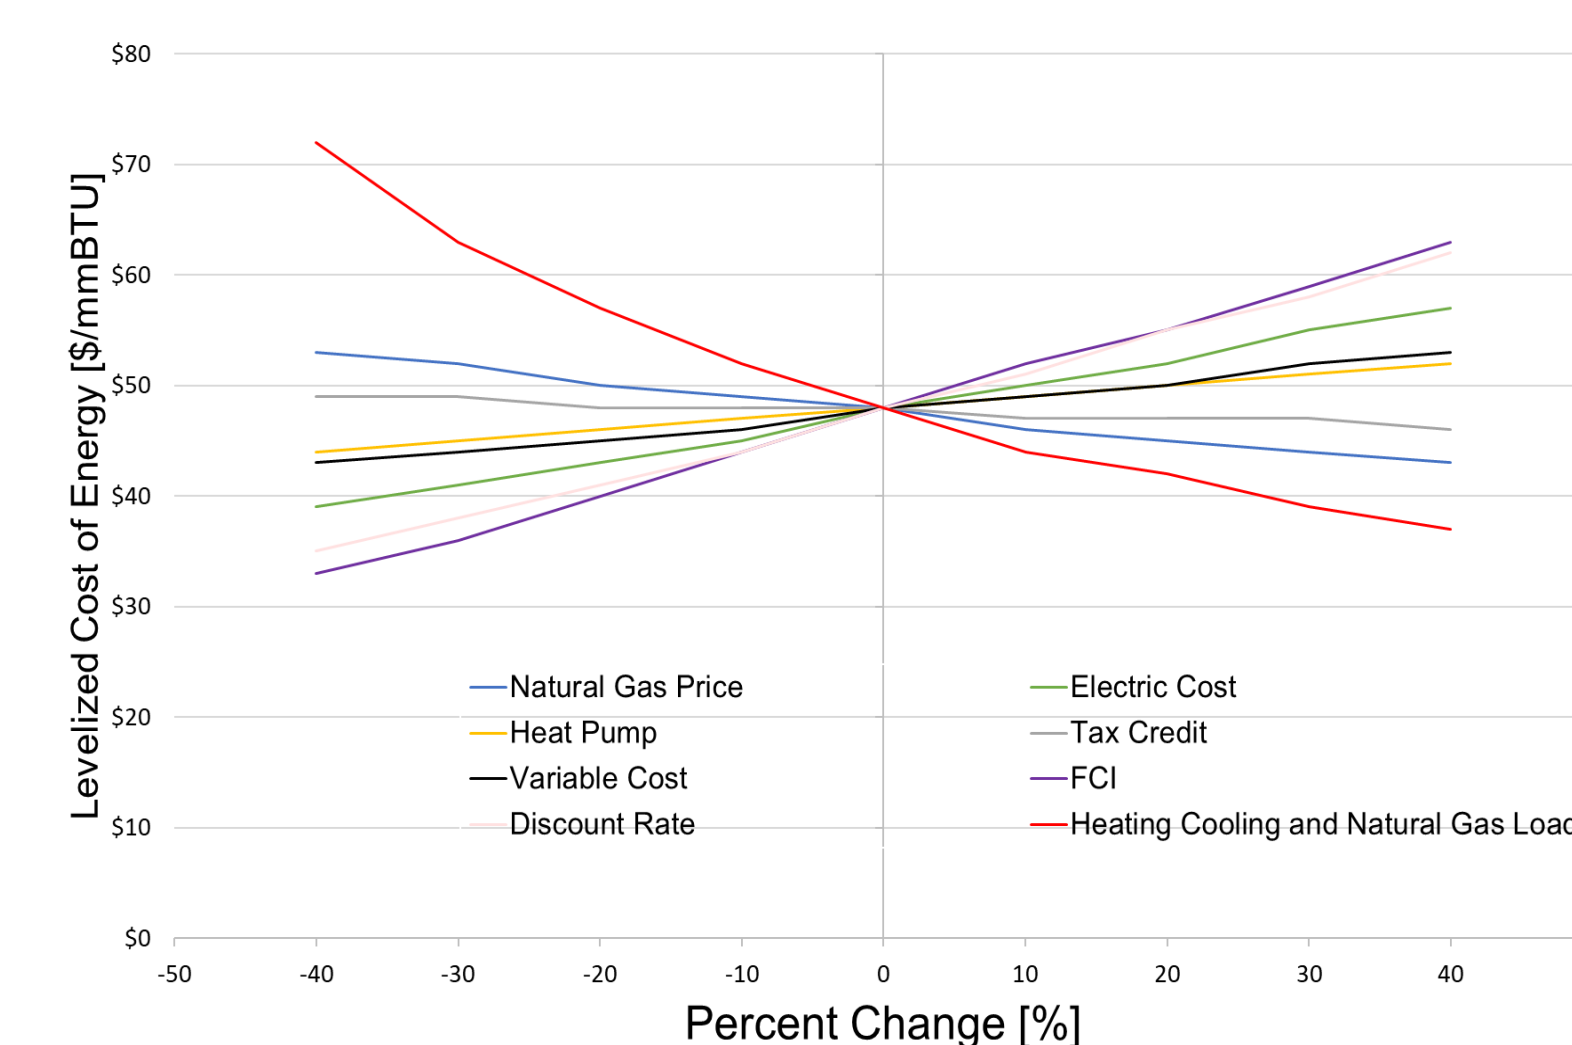

Figure 6. Sensitivity Analysis
- This sensitivity analysis, in Figure 6, compares the impact different variables have on the levelized cost of energy.